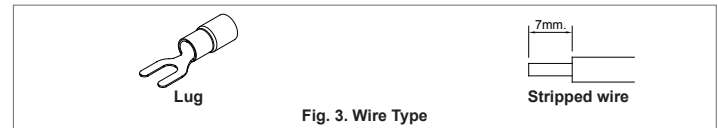

Fig. 3. Wire Type
- Use flexible cable (stranded or solid), AWG No. 18-14. The torque at the Connector shall no exceed 13 Kgf.cm. The insulation stripping length should not exceed 0.275" or 7 mm (Refer to Fig. 3).